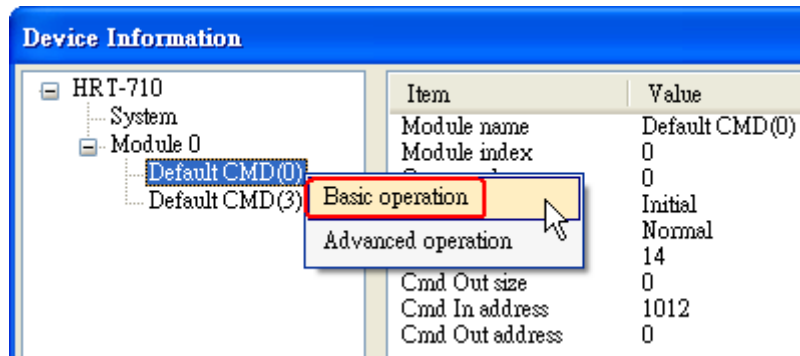

Figure 2-2 The “Basic operation” of the “Default CMD(0)”
- (2) Right click the button of mouse on the “Default CMD(0)” item and choose the “Basic operation” option to open the “I/O Data” screen of the “Default CMD(0)” like Figure 2-2.